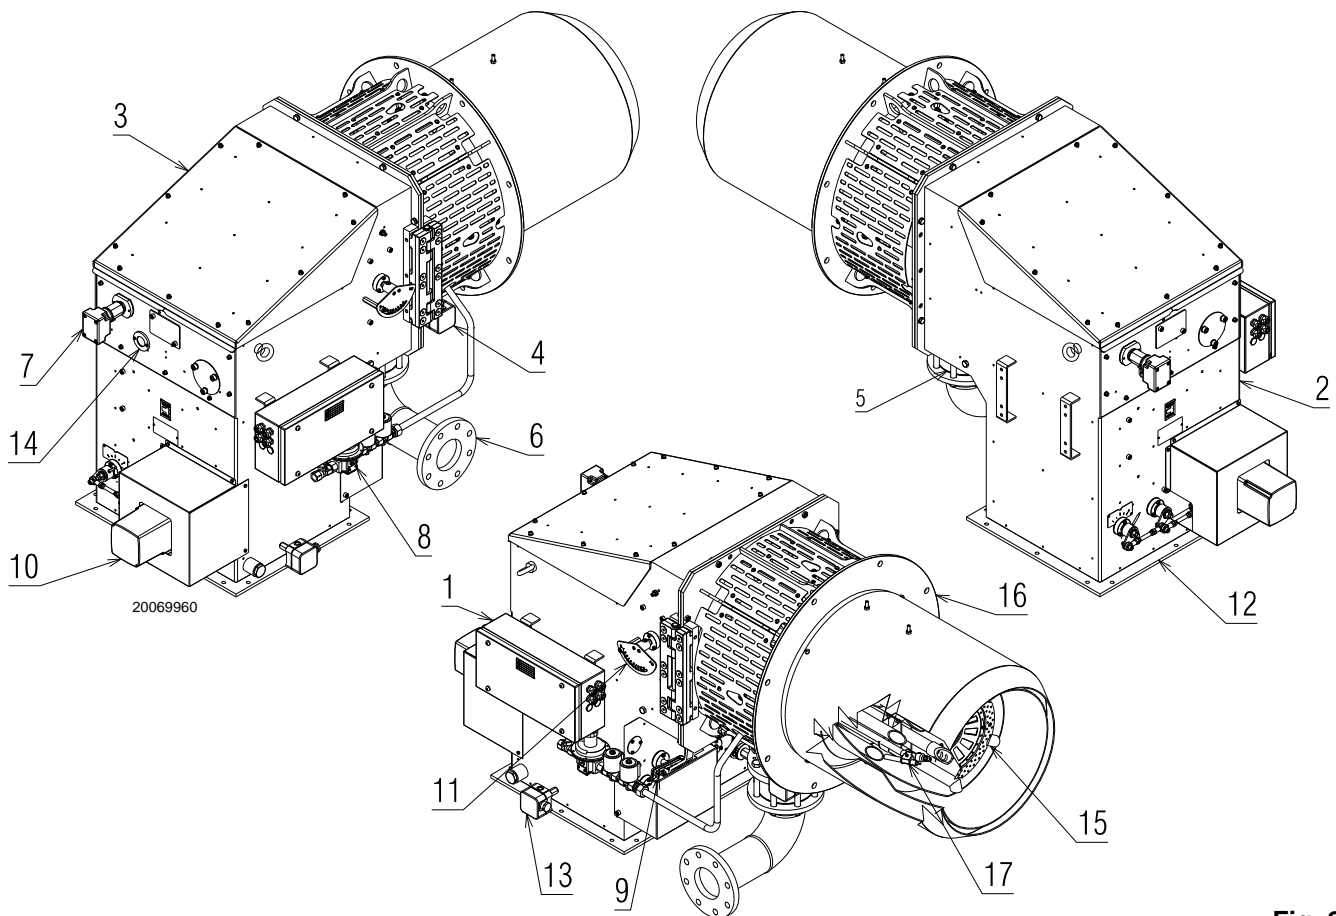

Fig. 2
The burner is connected to the gas train by the flange attachment on the gas butterfly valve (6)(Fig. 2).